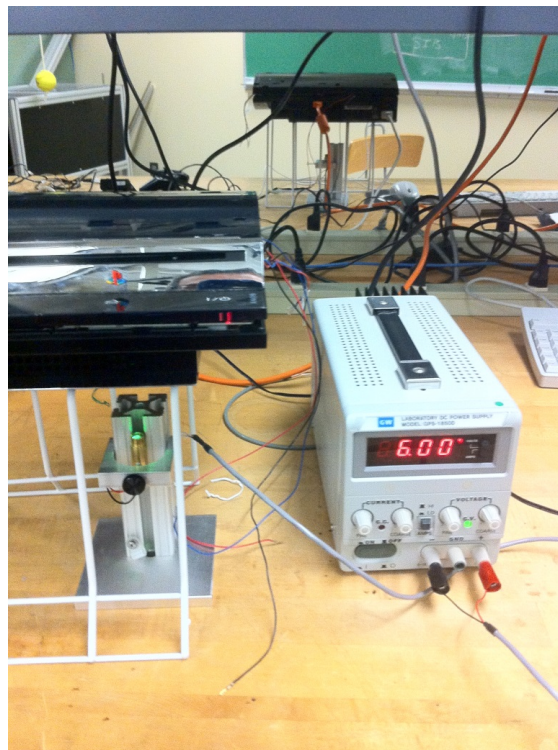

Figure 8 - Clamping and alignment of laser for photocell measurements of fan speed.
3. Position the laser underneath the fan of the PS3. The final setup should look like Figure 8.